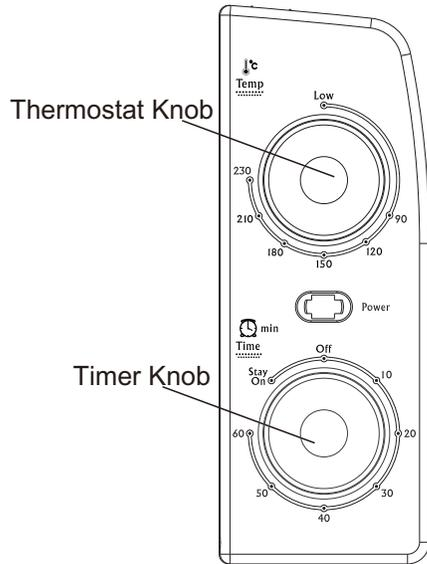

fig.13.
- 2、 Turn the Temperature Knob clockwise to 220°C。 See fig.13.
- 3、 Depending on the food you are cooking, set an appropriate time with the Timer Knob. If you need to cook food longer than 60 minutes, set the Timer to the Stay On setting. See fig.13.